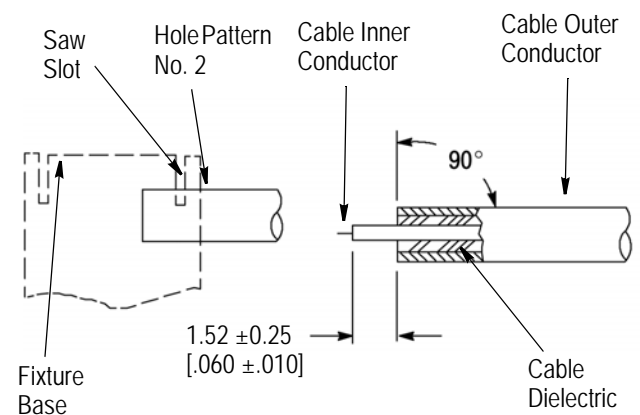

Figure 3
1. Insert the squared cable end into the fixture base hole pattern No. 2. as shown in Figure 3.
5. Complete trimming of cable inner conductor to dimension shown Figure 3.